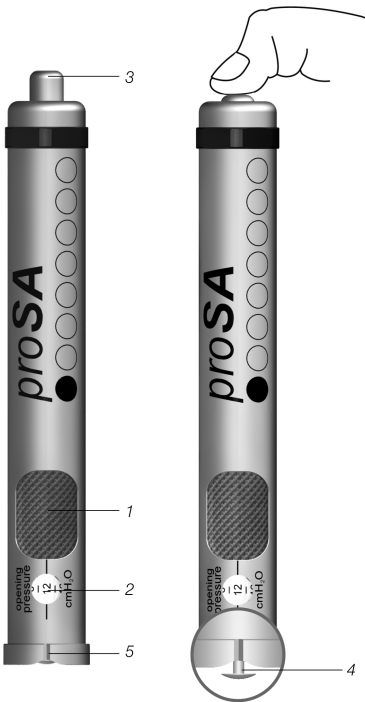

Fig. 4: *proSA Adjustment Tool*
The *proSA Adjustment Tool* (Fig. 4) is used to set the valve opening pressure. The desired pressure level is selected by turning the adjusting wheel (1); the pressure level appears on the display window (2). The *Adjustment Tool* is centred over the valve. Pressing the push-button (3) presses the adjustment tip (4) out of the base, unlocks the rotor in the valve and sets the valve opening pressure. The marking (5) on the *Adjustment Tool* must face the proximal catheter (leading towards the ventricle) when being placed onto the valve. The arrow on the bottom of the cap indicates the direction of flow.